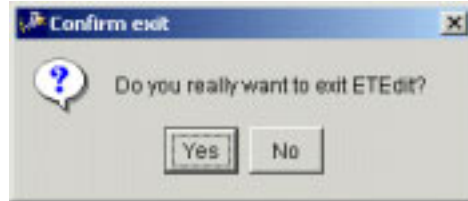

Figure 5.47 Confirm exit Window
1. On the ETEdit (main) window, on the File menu, click Exit. The Confirm exit window opens (Figure 5.47).